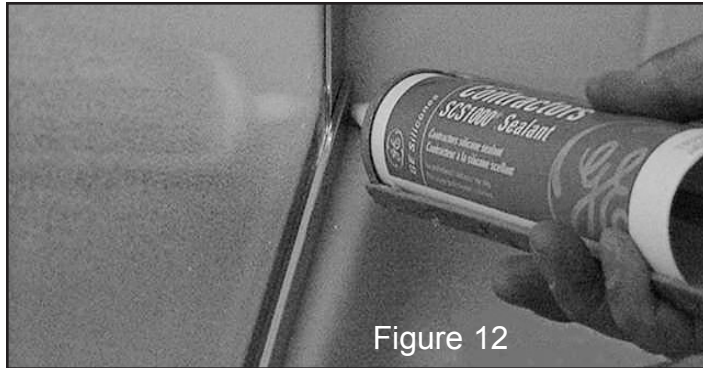

Figure 12
B. Using the Clear Tub/Tile Silicone, seal all edges inside and outside where curb or walls meet the horizontal or vertical Jambs. (See Figure 12).